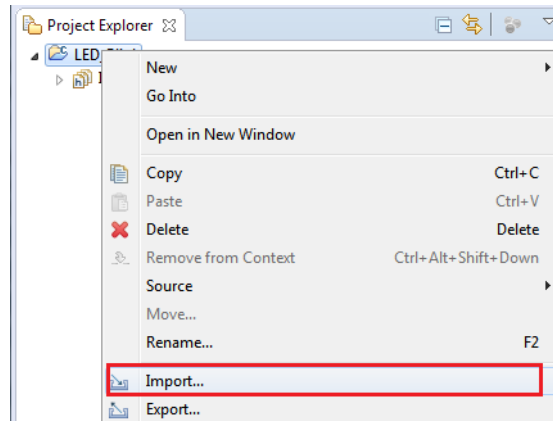

Figure 29 • Project Explorer - Import
8. Right-click **LED_Blink** and then click **Import** as shown in Figure 29.